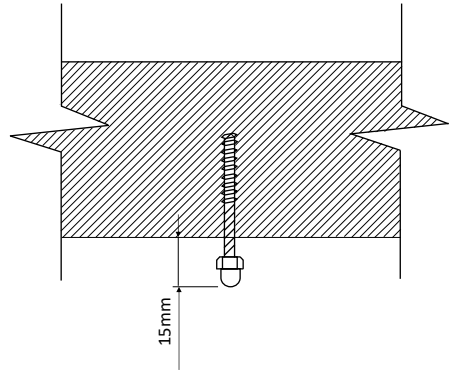

Fig 5
3. Screw the bolts into the 4 holes leaving 15mm from bulkhead to end of the bolt and cap (Fig 5).